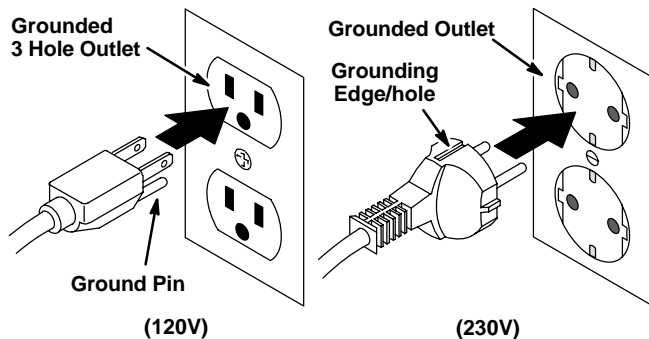

FIG. 23
6. Plug charger power supply cord into a grounded wall outlet (Figure 23).